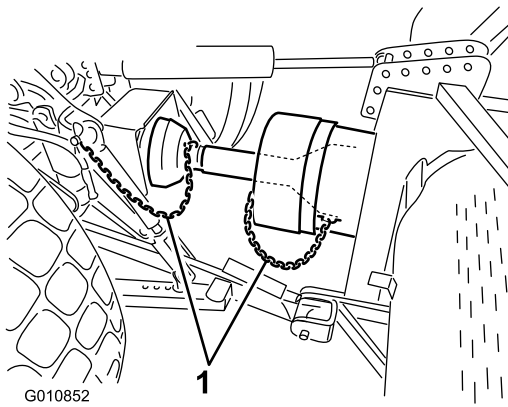

Figure 19
- Connect the shield safety chains to the PTO shield and the tractor bracket (Figure 19). Make sure the chains remain slack when the aerator is raised or lowered.